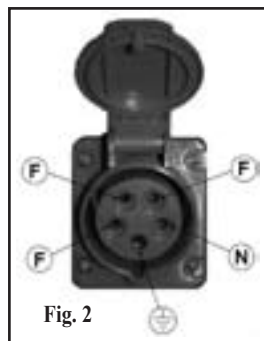

Fig. 2
Please check that the three-phase factory installation is correct. Make sure our socket is EN60529 and has 3F+N+T and the distribution of the connection should be as in Figure 2. Obtain 380V 50Hz or 220V 60 Hz between phases (F) and 230V 50Hz or 110V 60Hz between Phase and Neutral (F-N).